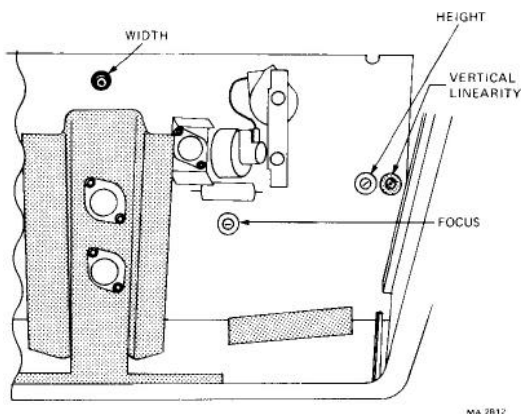

Figure 4-2 Display Adjustments
4.2 DISPLAY ADJUSTMENTS (Figure 4-2)
All display adjustments are located on the power supply/monitor board assembly. Remove the power supply/monitor heat sink assembly (Paragraph 3.2). Set the unit to the off-line mode of operation (Chapter 5) and fill the screen with characters before making any adjustments. Refer to Figure 4-2 for locations of the adjusting coil and potentiometers.